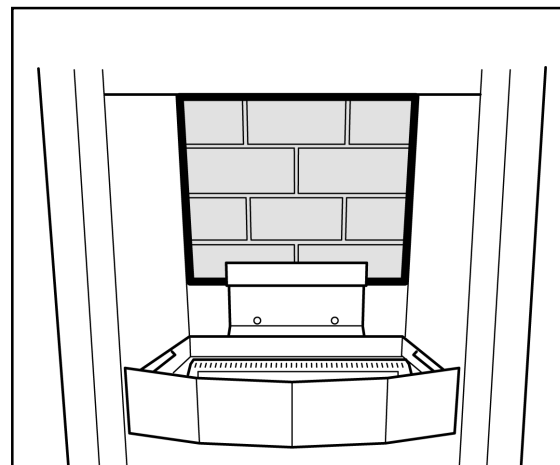

Figure 1 Ceramic Rear Wall Position
4. Fit the replacement ceramic support bracket and secure using the two screws removed previously (See figure 1)
5. Fit the ceramic rear wall into the bracket at the back of the firebox .See figure 1.